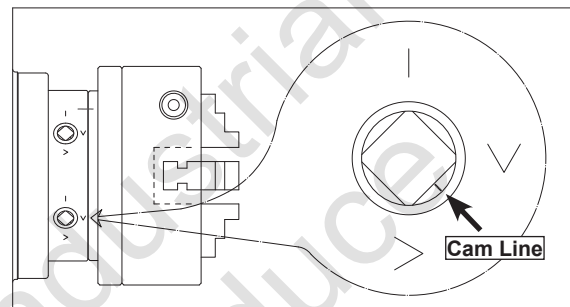

Figure 21. Cam and lines.
7. Turn a camlock with the chuck key until the cam line falls between the "V" marks shown in Figure 21.